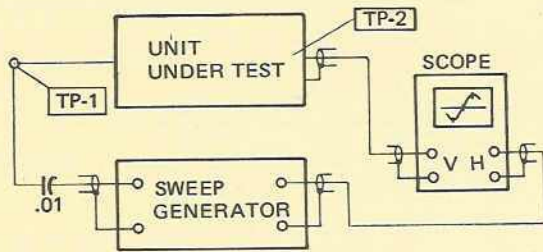

FIGURE 7. IF SECTION ALIGNMENT TEST EQPT. HOOK UP
Step 1: Connect instruments as shown in Figure 7.